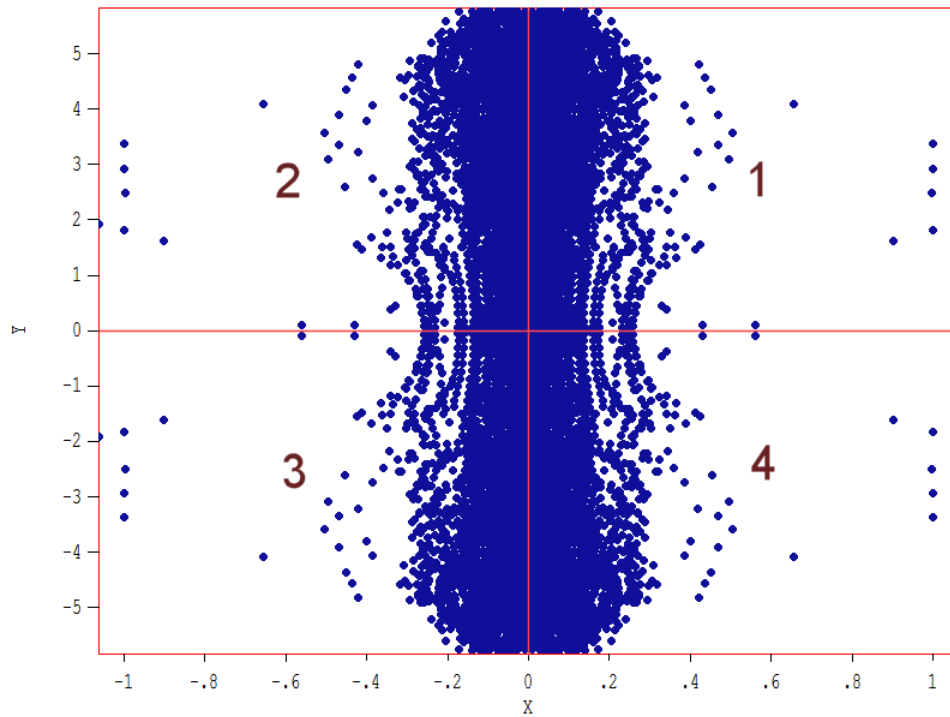

Figure 19: Mirroring a three-dimensional beam, definition of quadrants. The view is taken from the positive direction of the reference axis.
Figure 19 shows the quadrants for three-dimensional distributions relative to the reference axis. In a right-handed coordinate system, the horizontal and vertical coordinates in the graph
- If all quadrants are checked, then a particle in any quadrant is replicated in the other three quadrants. The most common application is to transform a distribution in Quadrant 1 so that it fills all four quadrants symmetrically (Fig. 19).